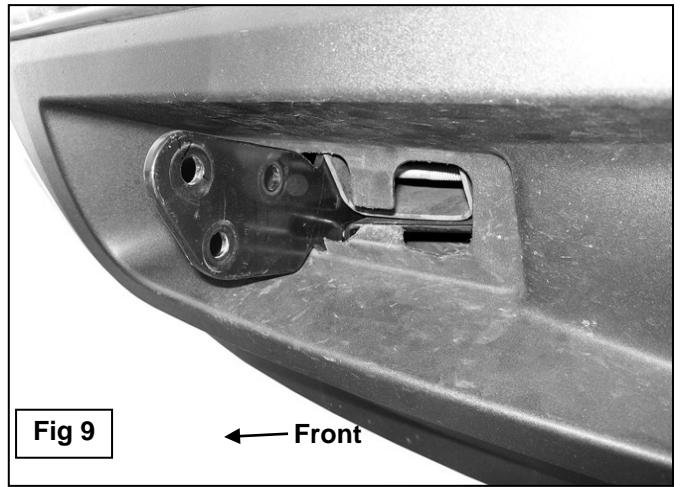

Fig 9
6. Select (1) Mounting Bracket and (1) Support Bracket. **NOTE, on vehicles with openings in bumper cover**, it may be necessary to enlarge the (2) openings in the bumper cover slightly to clear the Mounting Brackets, **(Fig 9)**. Trim cover as required to install Brackets.